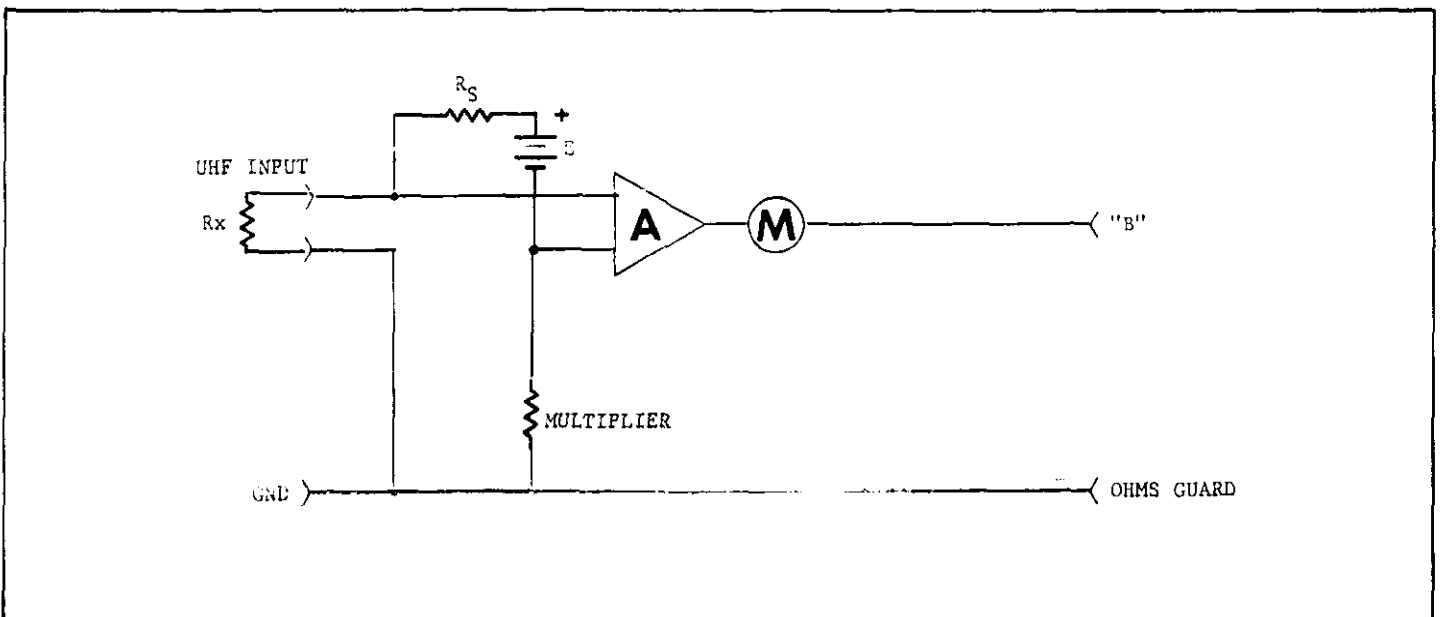

FIGURE 11. Block Diagram of Normal Mode Ohmmeter.
a. Normal Method. In the normal method of resistance measurements (FEEDBACK Switch in NORMAL position), the Model 600B uses a constant-current, voltage-drop circuit. Refer to Figure 11. R_x is the unknown resistor. A voltage source, E, applies a potential across R_x . The source is obtained from the batteries through the resistor divider network, R128 through R130. E varies depending upon the OHMS range used. The voltage source is connected between floating ground and the input gate of Q115 through R_s , the range resistor. R_s is one of the resistors, R136 through R146. I is equal to E/R_s , regardless of the value of R_x , as long as the voltage drop across R_x does not exceed the Multiplier Switch setting. This circuit provides a true source regardless of the input. The Model 600B can then measure the voltage drop across R_x and indicate the resistance value on its calibrated meter.
b. Guarded Method. In the guarded method of resistance measurements (FEEDBACK Switch in FAST position and the sample resistance connected between the INPUT Terminal, J102, and the GUARD Terminal), feedback is applied through the sample. Refer to Figure 11. The circuit is similar to the normal method, except for